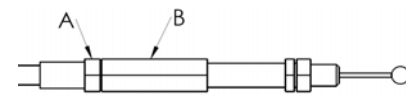

Fig. 9
- iii. Loosen the locknut (A in Figure 9)
- iv. Twist the adjustment nut to tighten cable (B in Figure 9).